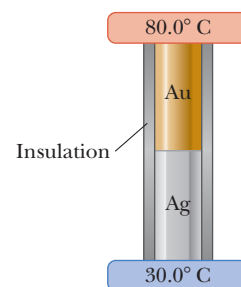

Figure P20.55
55. A bar of gold (Au) is in thermal contact with a bar of silver (Ag) of the same length and area (Fig. P20.55). One end of the compound bar is maintained at  $80.0^\circ\text{C}$ , and the opposite end is at  $30.0^\circ\text{C}$ . When the energy transfer reaches steady state, what is the temperature at the junction?